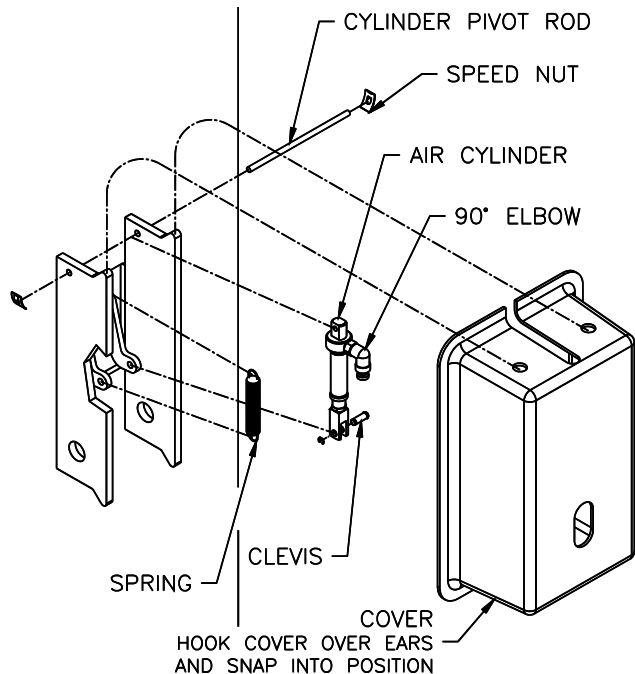

Fig. 4 – Locking Pawl Assembly
- 13) Install the locking pawl, actuator, and spring (Fig. 4). Adjust air cylinder clevis to retract lock against inside of back of column when air cylinder is fully extended. Tighten air cylinder clevis jam nut against clevis.